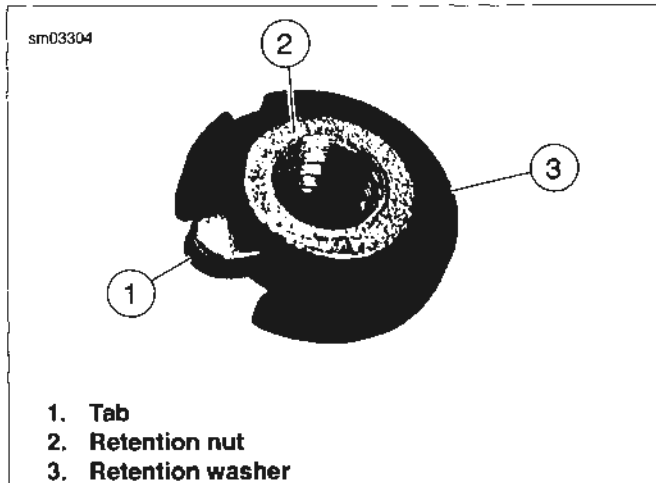

Figure 2-124. Seat Retention Nut
3. See Figure 2-124. With tab (1) on retention nut (2) seated in notch of fender hole, pull up on cable tie strap to hold nut snug against underside of rear fender.
4. From the side opposite the tab, slide on the retention washer (3) to lock the position of the retention nut.